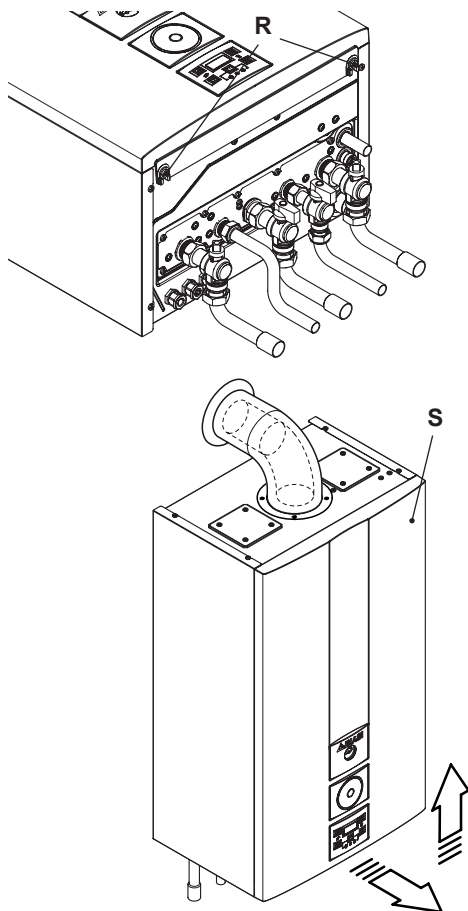

Fig. 6.15
- Unscrew screws "R" and remove the front panel "S" by pulling it and pushing it towards the top so that it is freed from the top housing Fig. 6.15.
- Identify the terminal block cover lid "S" (Fig. 6.15) and open it.